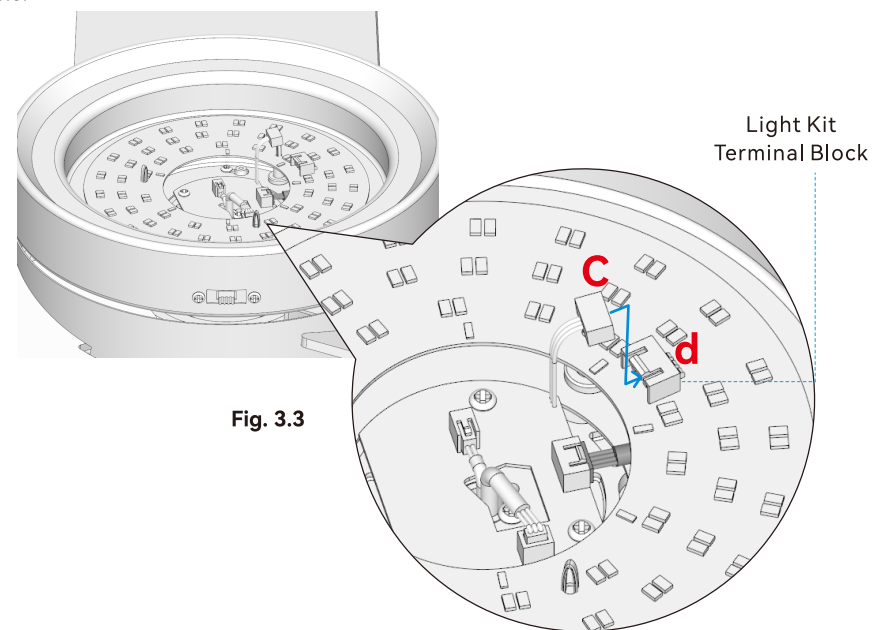

Fig. 3.3
3.5 Insert the wire plug **(c)** into the light kit terminal block **(d)** on the light kit, as shown in Fig. 3.3.